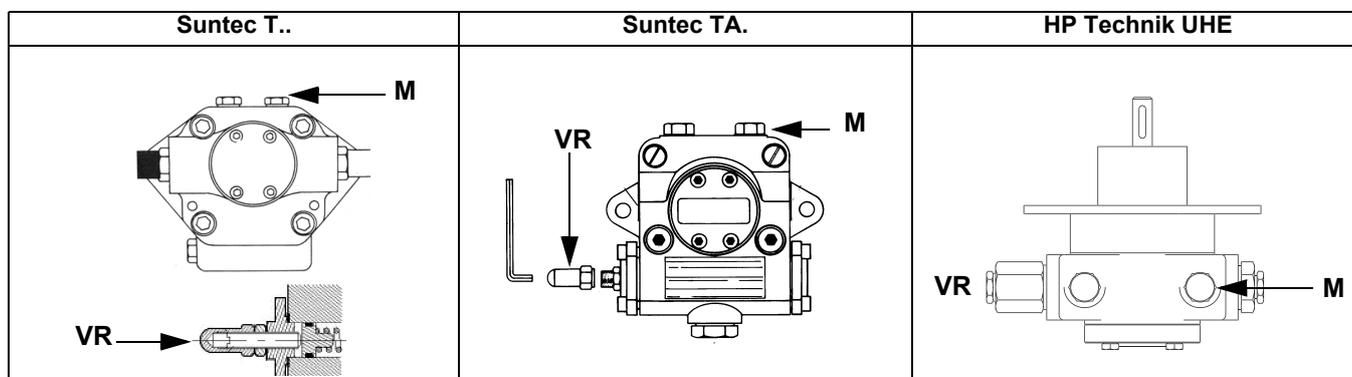

Fig. 6
- bleed the air from the **M** pressure gauge port (Fig. 6) by loosening the cap without removing it, then release the contactor.
- Only if necessary, adjust the supply pressure as follows (see related paragraph); insert a pressure gauge into the port shown on Fig. 7 and act on the pump adjusting screw **VR** (see Fig. 6) as to get the nozzle pressure at 20bar (Monarch or Fluidics nozzles - see page 45-38).